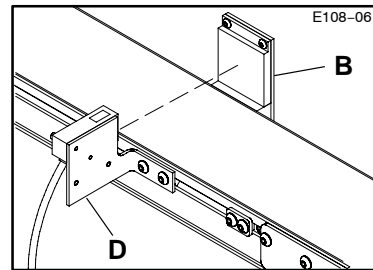

Figure 6: Photo-Eye & Reflector Alignment
3. Line-up the Photo-Eye and Reflector assemblies to enable optimum sensing and signalling capabilities (Figure 6).